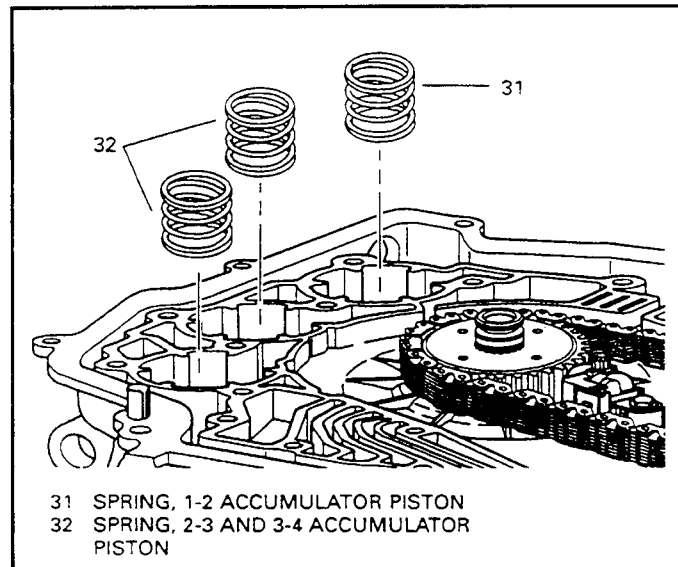

Figure 168
5. Install the 1-2 accumulator spring (31) into the location shown in Figure 168.
6. Install the 2-3 & 3-4 accumulator springs (32) into the locations shown in Figure 168.
7. NOTE: The 1-2 accumulator spring is slightly taller than the other two springs and is installed in the bore closest to the case connector, shown in Figure 168.